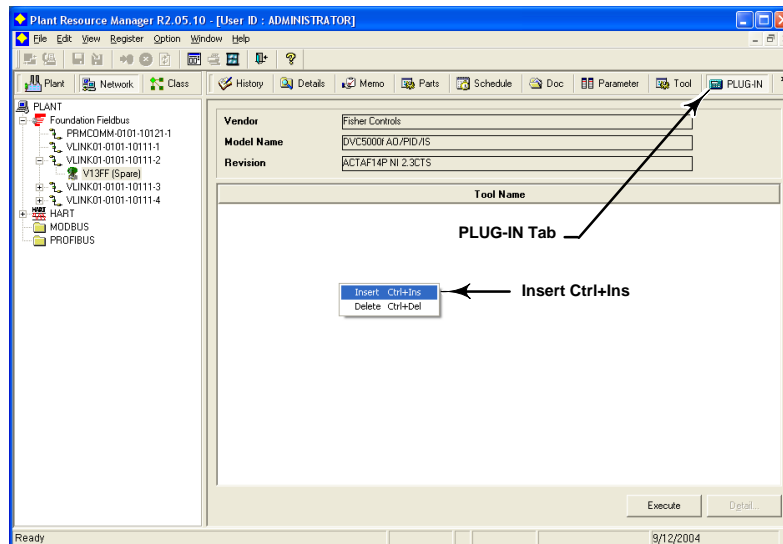

Figure 6-4. PLUG-IN Tab
- Step 3:** Click on the PLUG-IN tab. Move the mouse cursor to the white list box, as shown in figure 6-4 and right-click. Select the Insert Ctrl+Ins option.